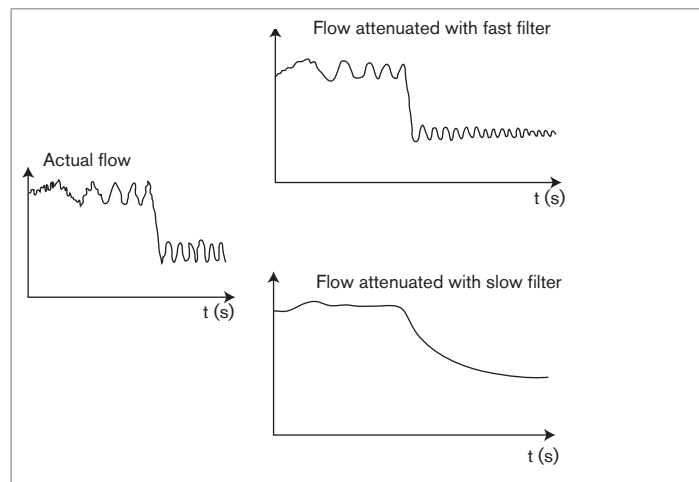

Fig. 25 : Flow filters
- "Slow" filter is used to even out high variations in flow (example: fluid containing air bubbles), see Fig. 25.
- "Fast" filter is used to even out low variations in flow (see Fig. 25).